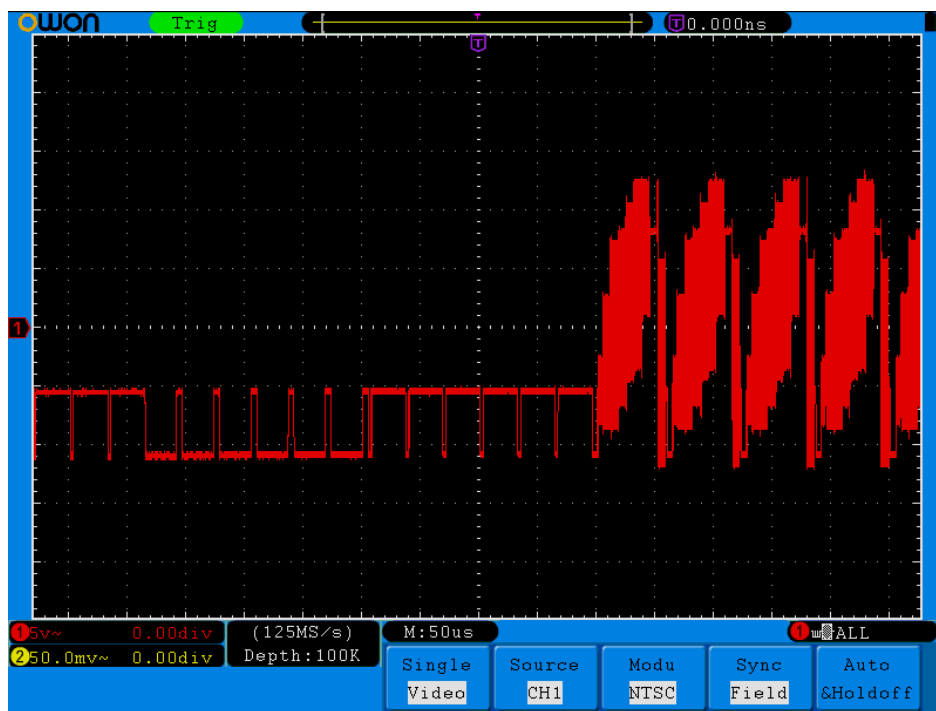

Fig.6-7 Waveform Obtained from Video Field Trigger
- (1) Press the **Trigger Menu** button to display the trigger menu.
- (2) Press the **H1** button to display the trigger type menu.
- (3) Press the **F1** button to choose **Single** for Type.
- (4) Turn the **M** knob to choose **Video** as the mode.
- (5) Press the **H2** button to display the Source menu.
- (6) Press the **F1** button to choose **CH1** for Source.
- (7) Press the **H3** button to display the Modu menu.
- (8) Press the **F1** button to choose **NTSC** for the modulation.
- (9) Press the **H4** button to display the sync menu.
- (10) Press the **F2** button to choose **Field** for Sync.
- (11) Turn the **VOLTS/DIV**, **VERTICAL POSITION** and **SEC/DIV** knobs to obtain a proper waveform display (see **Fig.6-7**).